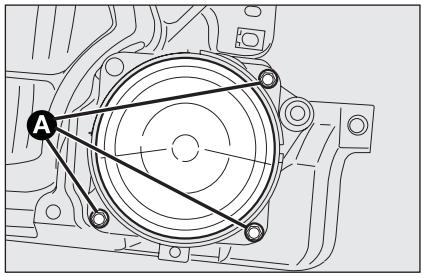

fig. 16
- remove the lens **fig. 16** by loosening the three fastening screws **A**;